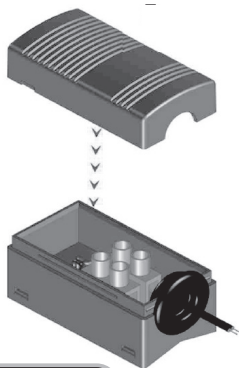

Figure 5
- ③ Close the cover. (See Figure 5)